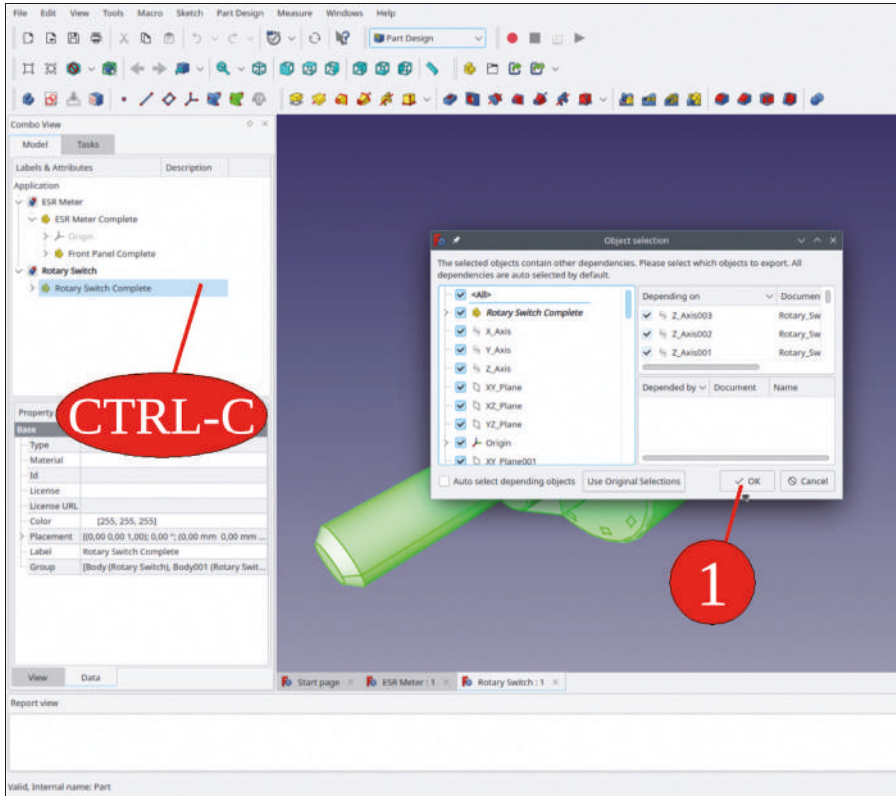

Figure 7-5
1. In the directory 'Sample Projects | ESR Meter | Components', locate the file 'Rotary Switch' and open it. In the file just opened, mark the Std-Part-Container 'Rotary Switch Complete' and copy it by pressing CTRL-C. A selection dialog opens (Figure 7-5). Do not change the standard selection, and click the OK button to proceed.